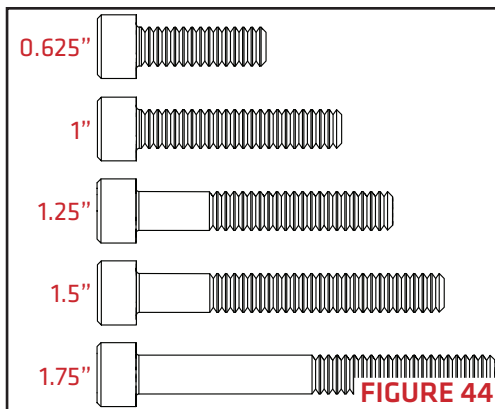

FIGURE 44
3. Secure the recoil pad and spacers to the base plate using supplied recoil pad screws and lock washers. The length of screw needed depends on how many spacers are present; see **FIGURE 44** and accompanying table.